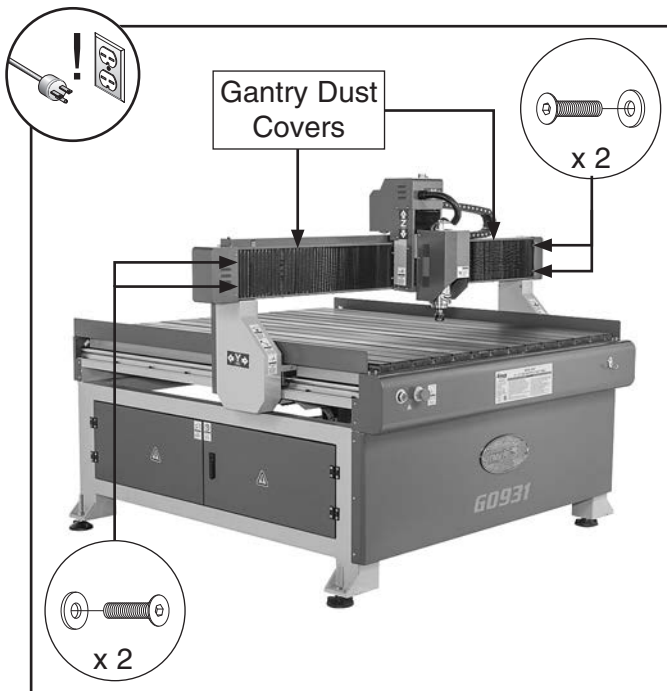

Figure 40. Gantry dust covers location.
2. Access X-axis ball screw and guide rails by removing (2) flat head cap screws and flat washers on each outer end of gantry dust covers (see **Figure 40**).